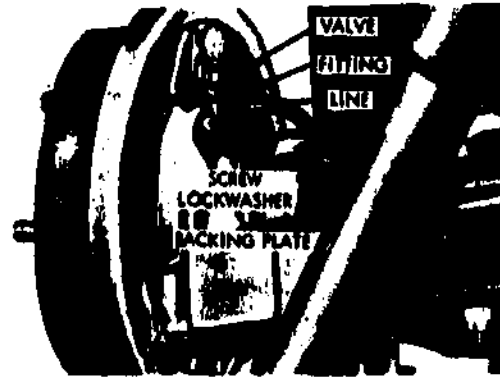

Fig 2-9. Brake fluid leakage.
- (5) A wet or damp appearance on the backing plate indicates brake fluid leakage. This could mean a faulty wheel brake cylinder, loose bleeder valve or loose/broken brake line. Usually, if the backing plate is wet, the odor of brake fluid will be strong (fig 2-9).